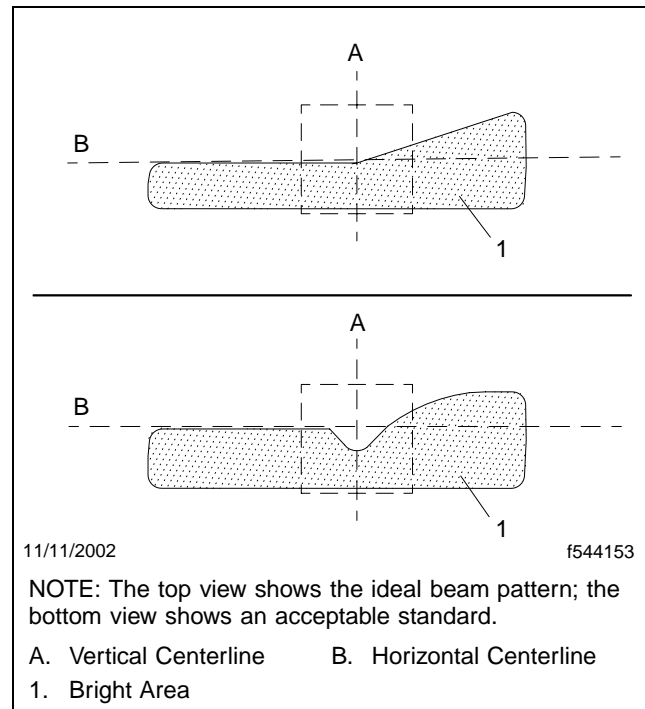

Fig. 3, Headlight Beam Pattern
5. Turn on the headlights to the low-beam setting. See **Fig. 3** for the ideal and acceptable patterns for both headlights.
2. With the vehicle parked 25 ft (7.6 m) from the screen or wall, put the headlights on low beams, and turn both adjusting knobs the same amount, as needed to adjust the lights until the beam pattern meets the acceptable standard in **Fig. 3**.